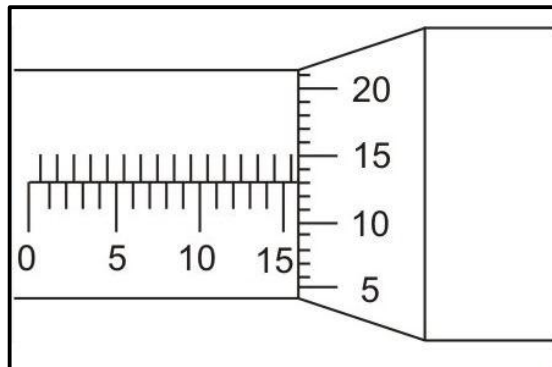

FIGURE 4.6
- D All nuts and bolts should be secured properly. (1)
4.6 Identify the reading shown in FIGURE 4.6 below when a 25–50 mm interchangeable rod is used with the micrometer.